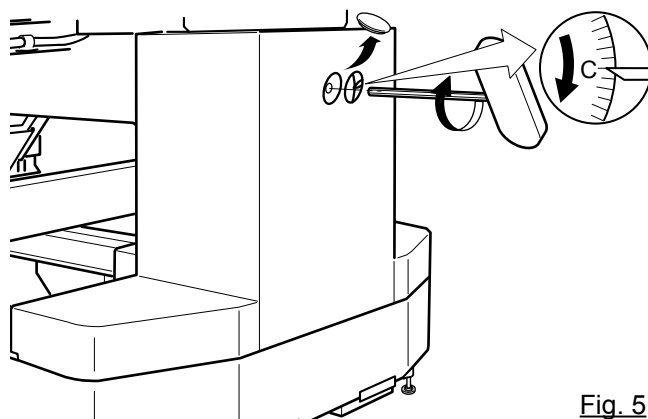
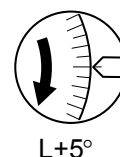

Fig. 5
Fig. 6
5. Turn main shaft by using the hexagonal driver in direction shown with arrow mark on Fig. 5 and set the angle of the adjustment disk as shown in fig. 6.